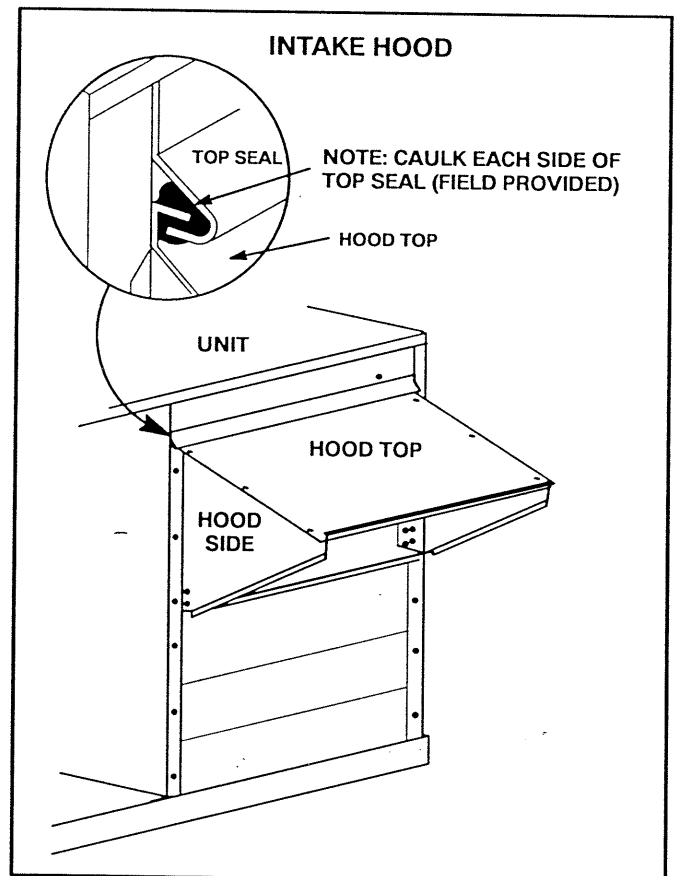

FIGURE 7
- 1- Remove screws securing side flanges of top hood to unit. See figure 7.
- 2- Pivot top hood open and secure sides of intake hood to top of hood using three sheet metal screws on each side. See figure 7.